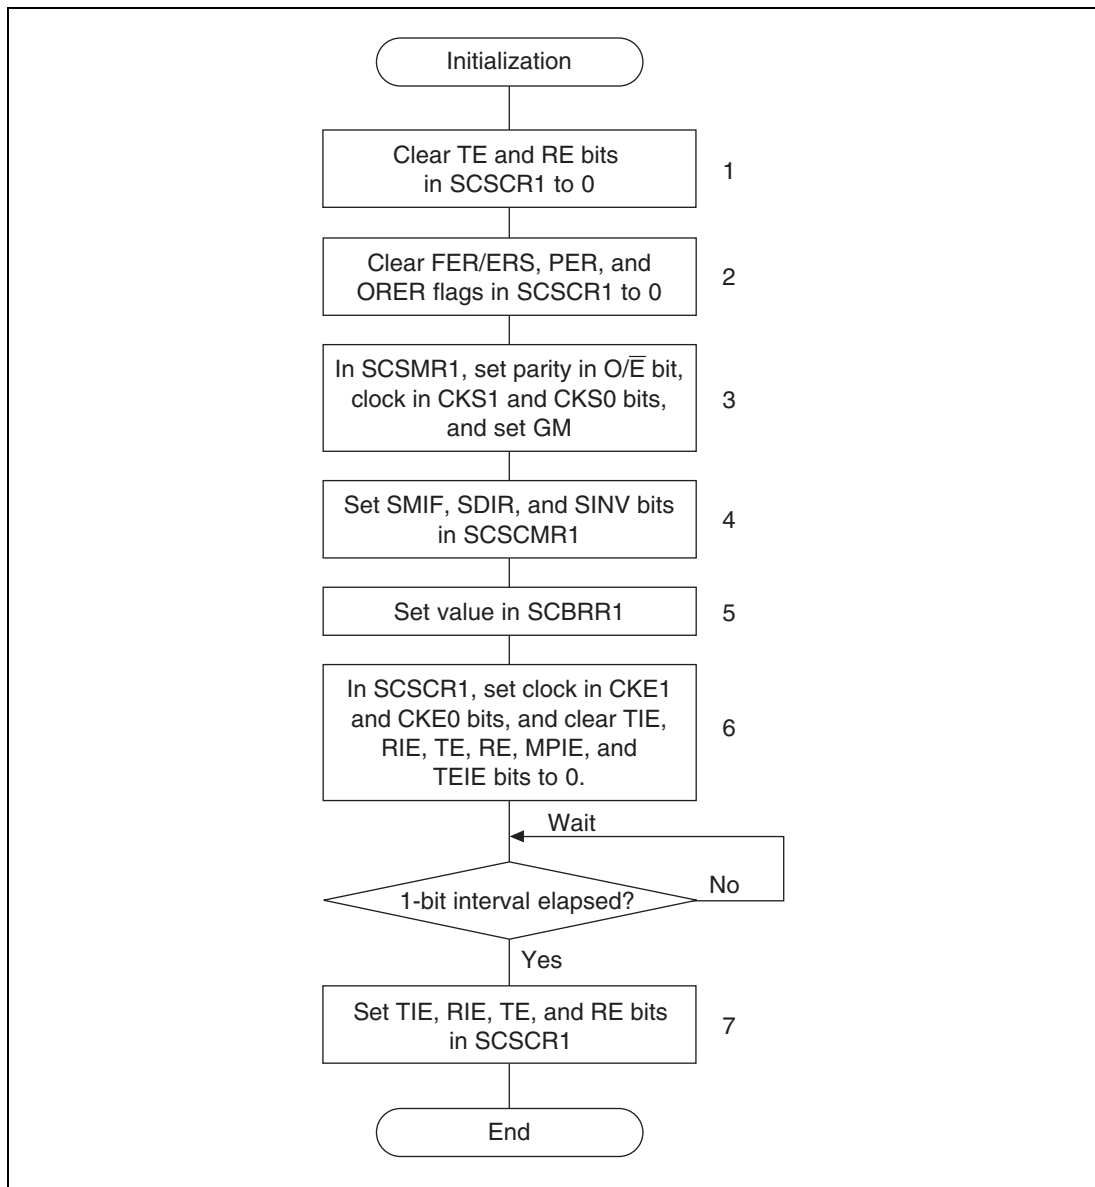

Figure 17.7 Sample Initialization Flowchart
**Initialization:** Before transmitting and receiving data, the smart card interface must be initialized as described below. Initialization is also necessary when switching from transmit mode to receive mode, or vice versa. Figure 17.7 shows a sample initialization processing flowchart.